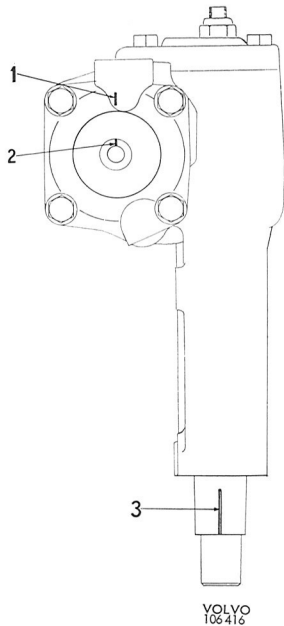
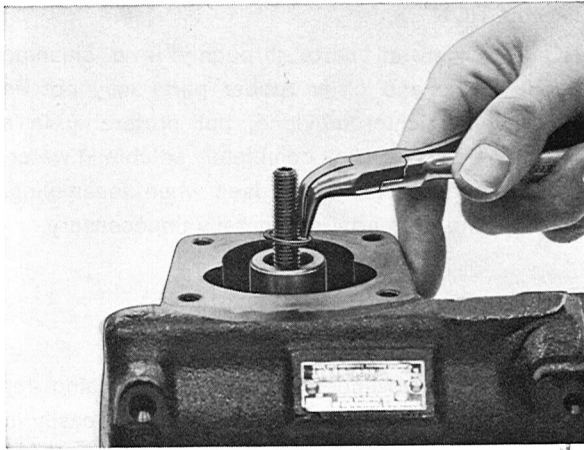

Fig. 6-73. Steering gear in middle position
Fig. 6-76. Removing circlip
1. Place the steering gear in the middle position. A slight increase in resistance should then be felt and the position of the pitman arm shaft lands should be as in Fig. 6-73 and the line-up marks on the steering spindle and gear housing should coincide.
2. Remove the lock nut (17) and the attaching bolts (19) for the cover. Screw in the adjusting screw (11) through the cover and remove the cover (16). Take out the loose needles in the cover bearing (14).
3. Remove the circlip (13) and adjusting screw (11), see Fig. 6-76. Adjust the pitman arm shaft (10) to the center position and lift it up, see Fig. 6-73. With a magnet remove the loose rollers in the bearings (3 and 7).